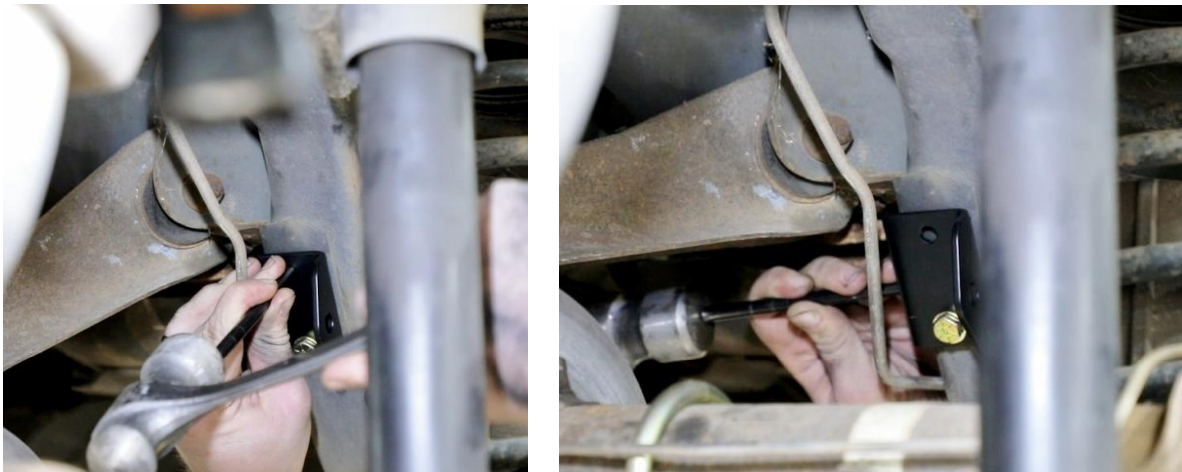

Figure 18 - Transfer Punch Frame Rail
21. Transfer punch the three remaining holes in the end link bracket to the frame rail (Fig. 18).